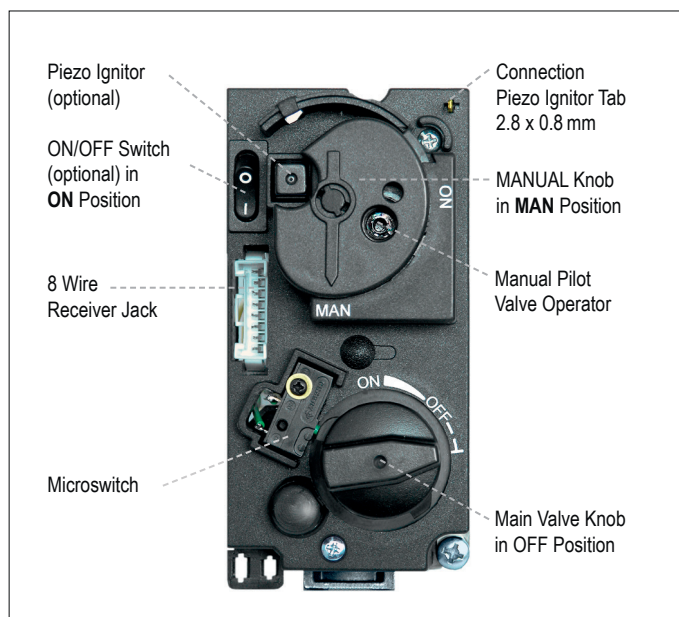

Figure 18: Combination Gas Control: Cover
5. Wait five (5) minutes to clear out any gas. Verify that no gas is in the area around the appliance, including near the floor. **If you detect gas STOP! Follow "WHAT TO DO IF YOU SMELL GAS" in the safety information on page 2.** If no gas is present, proceed to step 6.
6. Place **ON/OFF switch** (if equipped) in **I (ON)** position.
8. Fully push down manual pilot valve operator and hold in, to start pilot gas flow (see figure 18, page 10).